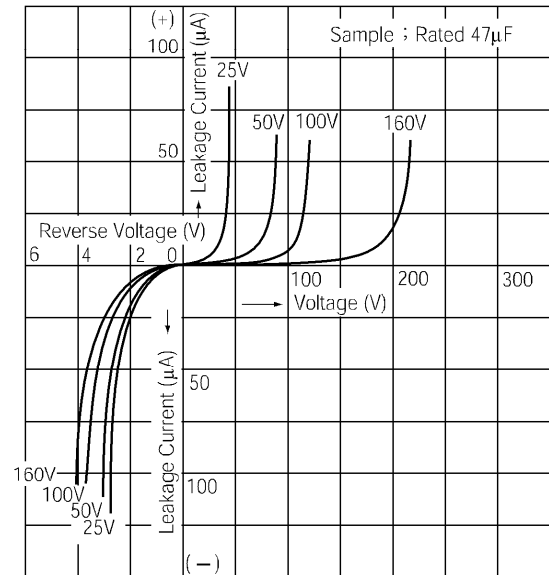

Fig. 2-2 V - I Characteristics (Voltage - Current Characteristics)
The relationship between the voltage and leakage current when voltage is applied to the aluminum electrolytic capacitor is shown in Fig. 2-2. From Fig. 2-2, the following can be said:
As (Fig. 2-2 V-I Characteristics) shows, the aluminum electrolytic capacitor does not have withstand voltage in the reverse direction. Therefore if the capacitor is used in an AC circuit, an electric current flow which is larger than that calculated from $I = \omega CE$. If the internal resistance of the aluminum electrolytic capacitor is labeled R (Ω), heat will generate due to the wattage loss $W = I^2R$ (W) according to the current. The degree of heat is large because the internal resistance of a capacitor is large; thus the pressure relief vent is activated when heat generates and causes the electrolyte to evaporate, causing the internal pressure to rise. Even bipolar capacitors (non-polar), cannot use it for continuous AC application in addition to above.